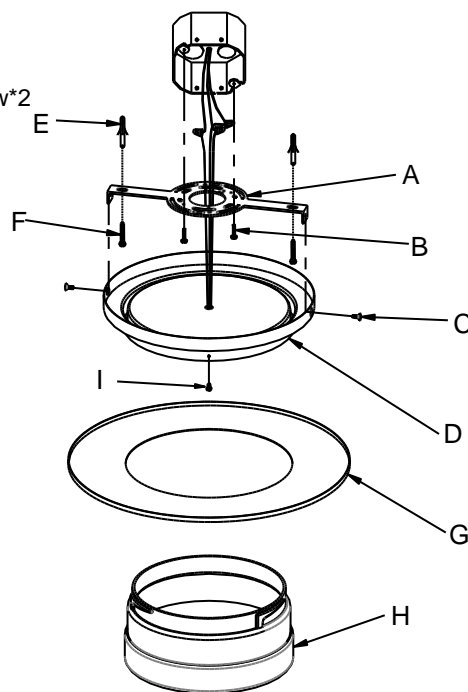

Fig. 2
CONNECTING THE WIRES (Fig.2)
8. Connect the electrical wires as shown in Fig.2 making sure that all wire connectors are secured. If your outlet box has a ground wire (green or bare copper), connect the fixture's ground wire to it. Otherwise, connect the fixture's ground wire directly to the mounting plate (A) using the green screw provided. Tuck wires neatly back into the junction box.